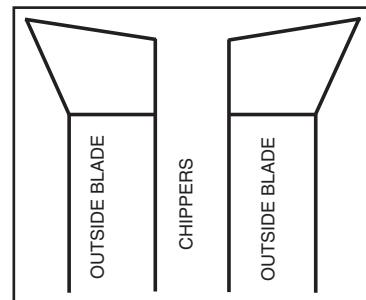

FIG. 69
2. The blade and chipper profile is shown in Fig. 69. Washers, if needed for fine width adjustment, can be placed anywhere between the outside blades and the chippers. A $1/4"$ (6.4 mm) groove is cut by using the two outside saws alone.